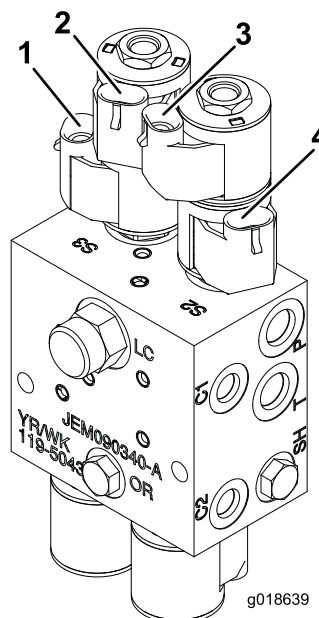

Figure 22
8. Connect the Left Boom/Up; Left Boom/Down connectors on the wiring harness to the solenoid valves on the hydraulic block (Figure 22).